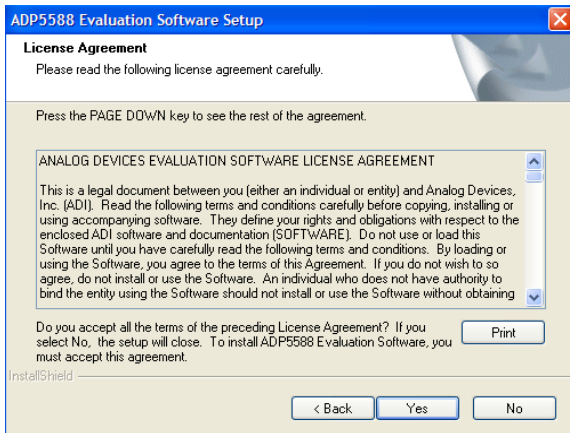

Figure 5. Analog Devices Evaluation Software License Agreement
2. When the screen in Figure 5 appears, click **Yes** to accept the license agreement.